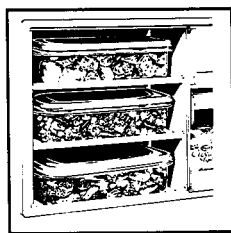

FIGURE 83
**Food Storage Containers.** Some models feature three durable leftover containers. See Figure 83. They store conveniently in this compartment and slide out for easy access. Containers are microwave\* and dishwasher safe. (Always place in the top rack of dishwasher.)